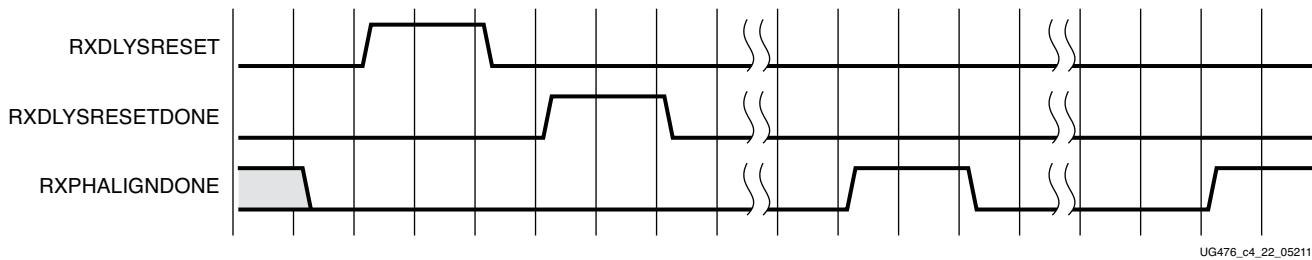

Figure 4-41: RX Buffer Bypass—Single-Lane Auto mode (GTX Transceiver Only)
Figure 4-41 shows the required steps to perform the auto RX phase alignment and use the RX delay alignment to adjust RXUSRCLK to compensate for temperature and voltage variations.
Notes relevant to Figure 4-41:
1. The sequence of events in Figure 4-41 is not drawn to scale.